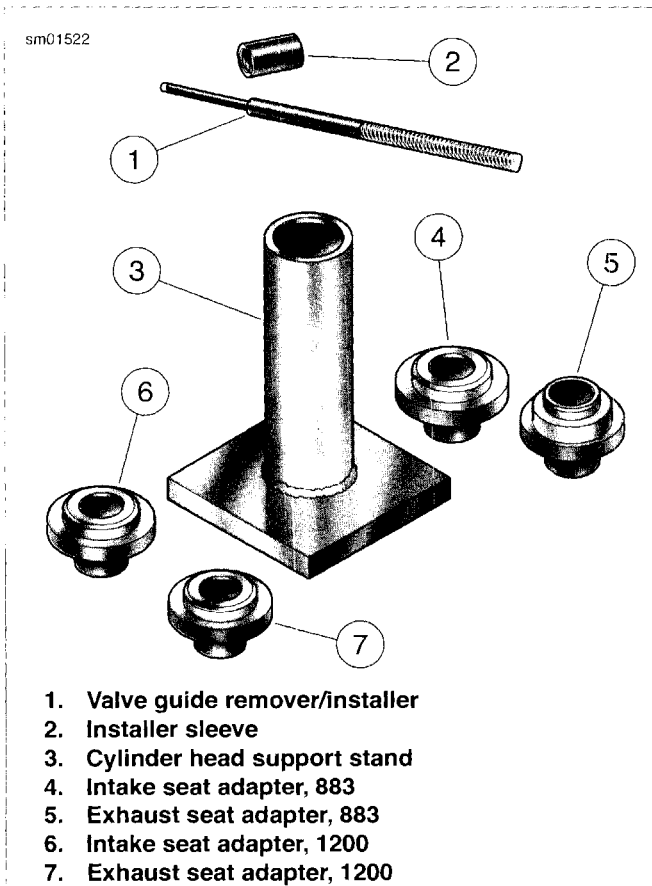

Figure 3-123. Valve Guide Replacement Tools
1. See Figure 3-123. Prepare cylinder head for valve guide replacement.
- b. Insert sleeve of intake (4 or 6) or exhaust (5 or 7) seat adapter into tube at top of CYLINDER HEAD SUPPORT STAND (Part No. HD-39782-A) (3).
*Installer sleeve (item 2, Figure 3-123) is not used for removal of valve guide.*
3. Center VALVE GUIDE REMOVER/INSTALLER under ram (3) of press. Apply pressure until valve guide drops free of cylinder head. Discard valve guide.
- a. See Figure 3-123. Insert sleeve of intake (4 or 6) or exhaust (5 or 7) seat adapter into tube at top of cylinder head support stand (3). Position cylinder head so that valve seat is centered on seat adapter.
- d. Place installer sleeve (2) over valve guide and then insert VALVE GUIDE REMOVER/INSTALLER (1) into installer sleeve.